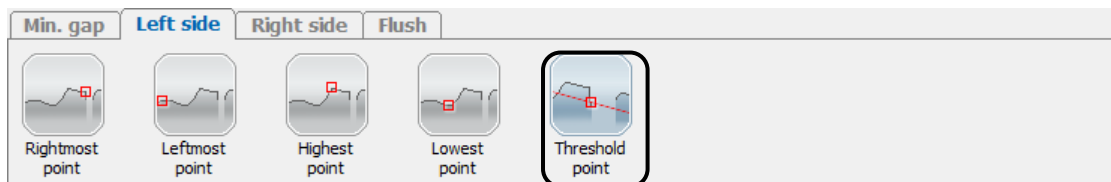

Fig. 3.37: "Threshold point" algorithm for the left point of a gap, "Left side" tab sheet
- Select the algorithm for determining the start point of a gap, for example by clicking in the "Left side" tab sheet (see Fig. 3.37).
The selection buttons with the algorithms available will appear at the bottom (see Fig. 3.37).
- Select the "Threshold point" algorithm (see Fig. 3.37).
- Select the algorithm for determining the start point of a gap, for example by clicking on the "Left side" tab sheet (see Fig. 3.37).
- Select the algorithm "Threshold point" (see Fig. 3.37).